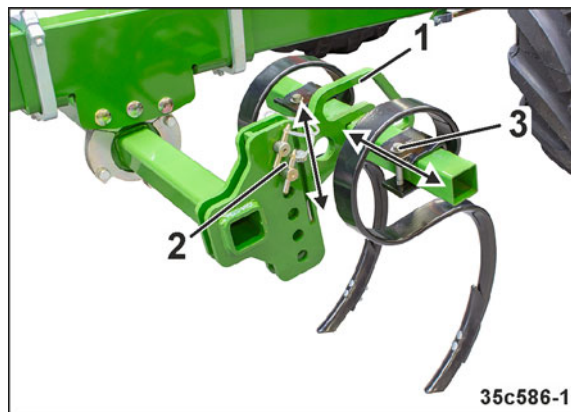

Fig. 208
1. Loosen the fastening nuts (Fig. 208/3).
3. After adjusting the wheel mark eradicator, tighten the fastening nuts (Fig. 208/3)
1. Hold the wheel mark eradicator by the handle (Fig. 208/1).
2. Remove the pins (Fig. 208/2).